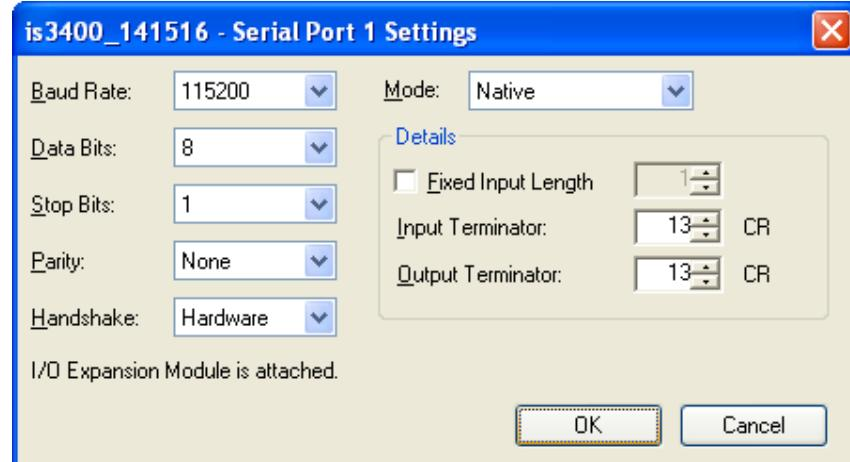

Figure B-4: Serial Port Settings Dialog
4. Select Hardware from the Handshake drop-down list (Figure B-4).